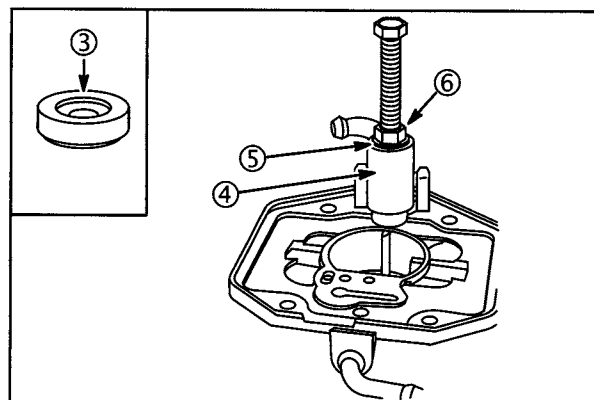

Fig. 105
3. Install 1/4" x 20 Nut #92278 (6) and Washer #224061 (5) from Tool Kit #19332 onto screw, Fig. 105.
4. Place a 1/4" drive 3/8" (9 mm) socket (4) over seat body.
7. Remove fuel inlet seat (3).